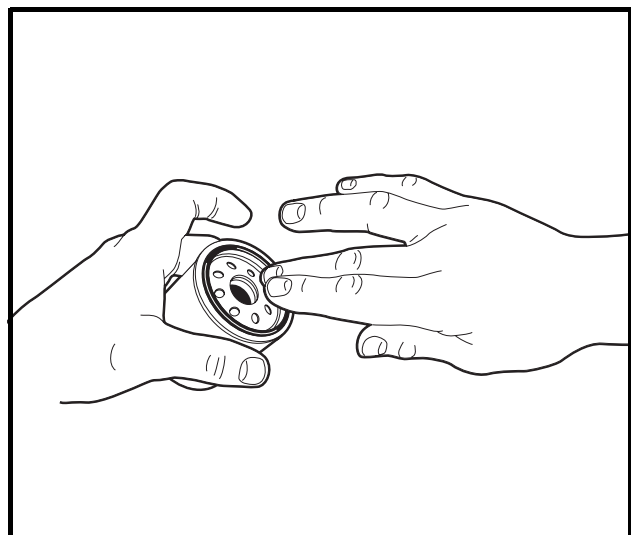

Figure 26 Coat Rubber Seal
5. To help seal the new oil filter to the oil port flange, apply a light coat of white lithium NLGI Number 2 grease (Dow Corning® BR2-Plus or equivalent) or new engine oil to the rubber seal around the outside surface of the filter before attaching it to the oil filter port (**Figure 26, Page 37**). Install the new oil filter (gas: P/N 603 00 00-09) (diesel: P/N 603 00 00-12) onto the engine oil filter port. **See following NOTE.**